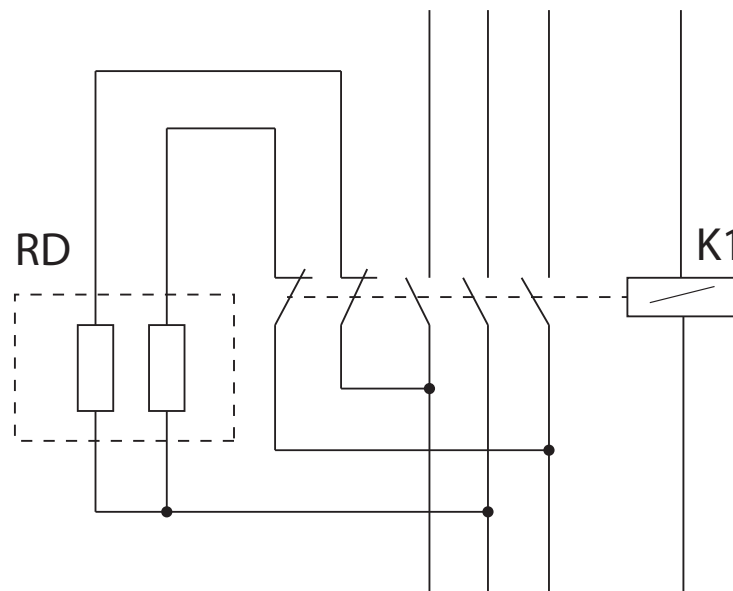

Figure 11: Connection of the discharge resistors.
- ✓ If the capacitor bank includes RD discharge resistors, check they are in good condition (that they are not open or show signs of burning). (**Figure 11**)